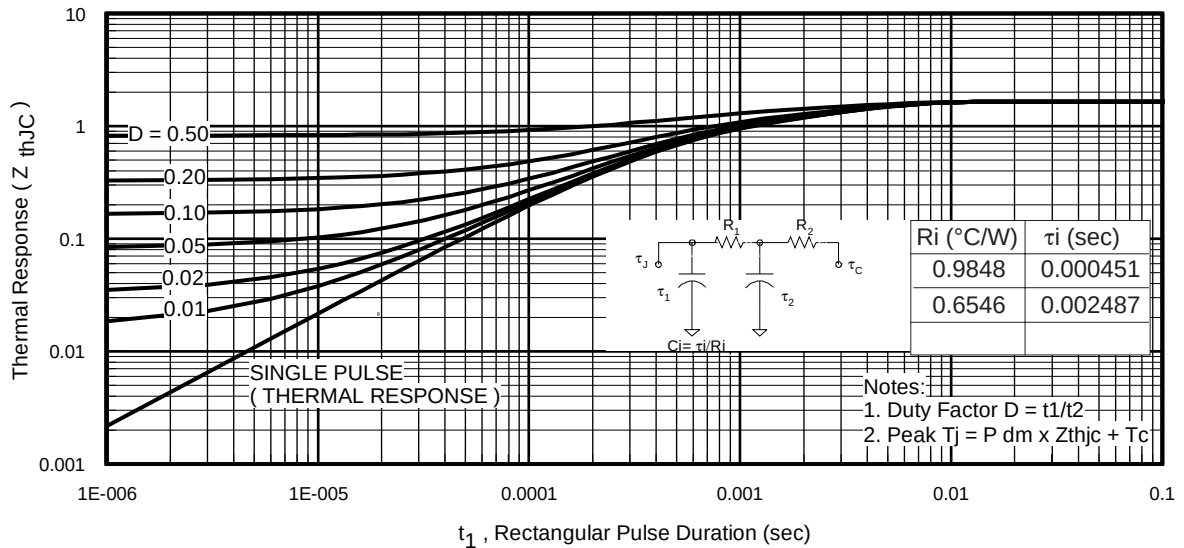
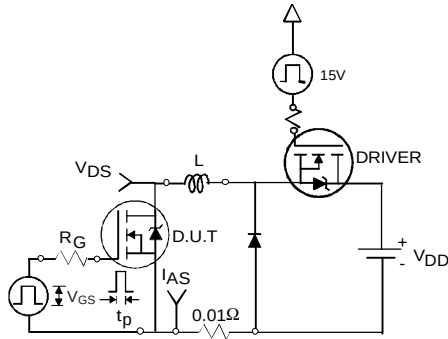

Fig 11. Maximum Effective Transient Thermal Impedance, Junction-to-Case
Fig 12a. Unclamped Inductive Test Circuit
- ① Repetitive rating; pulse width limited by max. junction temperature. (See fig. 11).
- ② Limited by T_{Jmax} ; starting $T_J = 25^\circ\text{C}$, $L = 0.11mH$, $R_G = 25\Omega$, $I_{AS} = 37A$, $V_{GS} = 10V$. Part not recommended for use above this value.
- ③ $I_{SD} \leq 37A$, $di/dt \leq 920A/\mu s$, $V_{DD} \leq V_{(BR)DSS}$, $T_J \leq 175^\circ\text{C}$.
- ④ Pulse width $\leq 1.0ms$; duty cycle $\leq 2\%$.
- ⑤ $C_{oss \text{ eff.}}$ is a fixed capacitance that gives the same charging time as C_{oss} while V_{DS} is rising from 0 to 80% V_{DSS} .
- ⑥ Limited by T_{Jmax} , see Fig.12a, 12b, 15, 16 for typical repetitive avalanche performance.
- ⑦ This value determined from sample failure population. 100% tested to this value in production.
- ⑧ This is applied to D²Pak, when mounted on 1" square PCB (FR-4 or G-10 Material). For recommended footprint and soldering techniques refer to application note #AN-994.
3. Equation below based on circuit and waveforms shown in Figures 12a, 12b.
$Z_{thJC}(D, t_{av})$ = Transient thermal resistance, see figure 11)